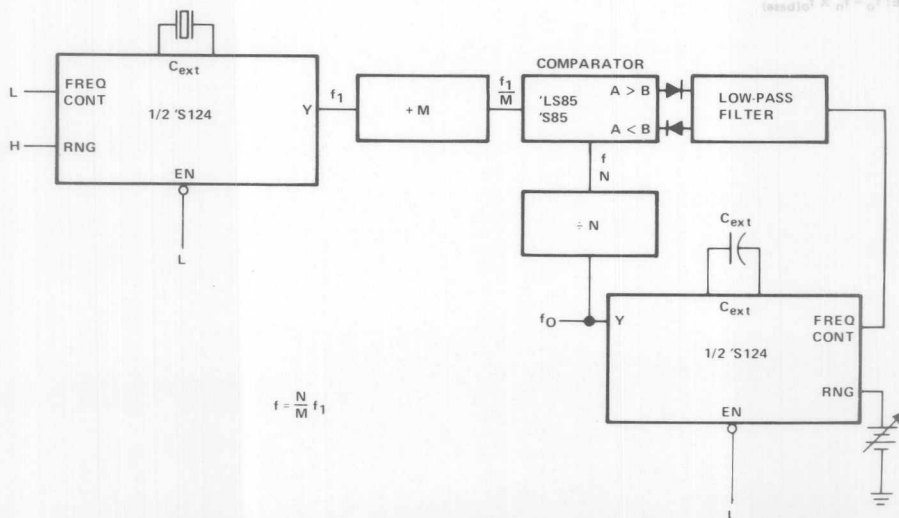

FIGURE 2—HIGH-FREQUENCY PHASE-LOCKED LOOP
- In another method, the comparison of $\frac{f_1}{M}$ and $\frac{f_1}{N}$ can be performed with either an SN54LS85/SN74LS85 or SN54S85/SN74S85. The resultant $A > B$ and $A < B$ outputs from the 'LS85 or 'S85 permit the detector to be simplified to a charge-pump circuit. See Figure 2.